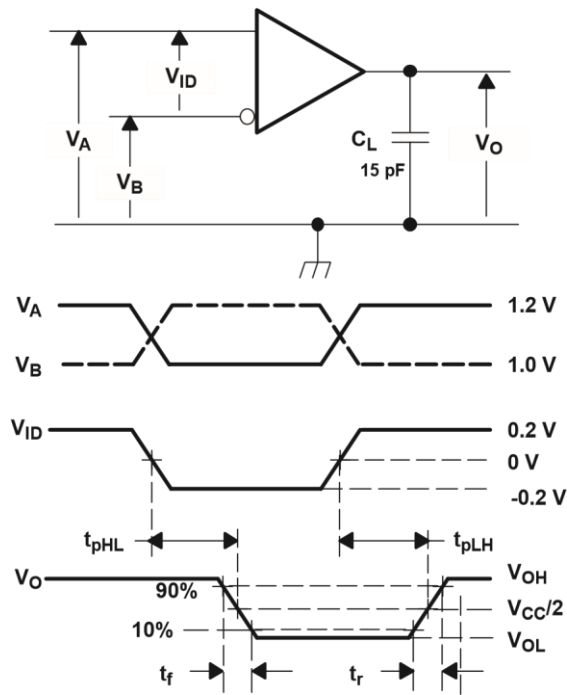

Figure 9. Receiver Timing Test Circuit and Waveforms
| $t_{pLH}$                          | Propagation delay time, low-to-high-level output (1)  | $C_L = 15 \text{ pF}$ , See Figure 9 | 2   | 4   | 6   | ns   |